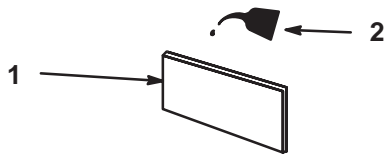

Figure 21
- C. Soak the element in new engine oil. (Fig. 21). Squeeze the element to remove excess oil.